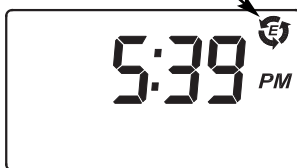

FIG. 23
3. Press the PROGRAM button three times to return to the normal run display (See Figure 23).